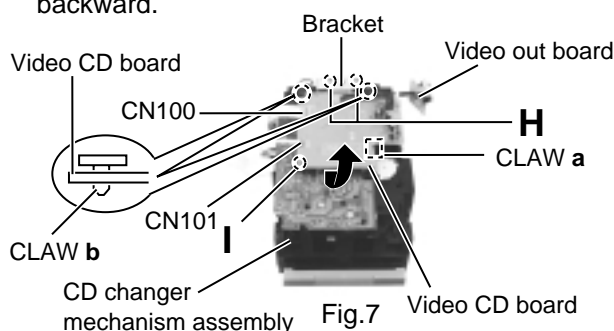

Fig.7
■ Removing the video CD board (See Fig.7)
(See Fig.7)